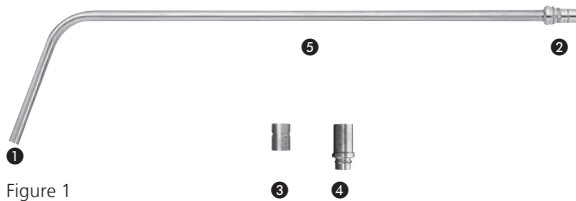

Figure 1
- ① Light exit
- ② Light cable connection ACM Standard
- ③ Adapter for Wolf
- ④ Adapter for Storz
- ⑤ Fixation area for SynFrame Clamp (387.347) and Holder for Optics (387.365)
The SynFrame Clamp for Holding Rings (387.347) and Holder for Optics (387.365), which is used to connect the Light-transmitting Rod to the SynFrame Holding Ring (387.336) and the SynFrame Half-Ring (387.337), can be attached to the SynFrame Light-transmitting Rod on the entire length of the shaft of the Light-transmitting Rod (see figure 1, ⑤).
- Remove dirt on the optical surfaces (see figure 1, ① and ②) using cotton soaked in alcohol (70% Ethanol) or a neutral cleanser.
- Remove dirt residues on optical surfaces (see figure 1, ❶ and ❷) using cotton soaked in alcohol (70% ethanol) or a neutral cleaning agent.
Before sterilisation, make sure the SynFrame Light-transmitting Rod and the optical surfaces in particular (see figure 1, ❶ and ❷) are clean and that testing the SynFrame Light-transmitting Rod does not lead to any findings that impose restrictions on the use.
– dirty fiber optic	– clean fiber-optic surfaces (figure 1, ❶ and ❷). If required, send the SynFrame Light-transmitting Rod in for servicing